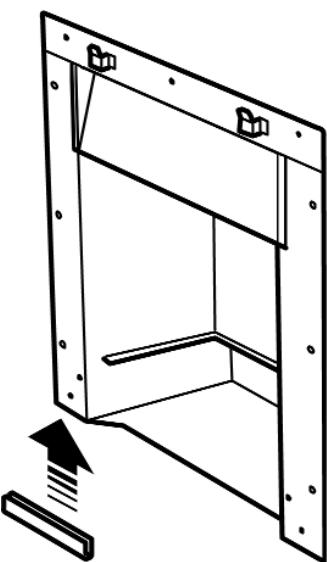

Figure 13. 'U' seals
2. Fit the two "U" section seals to the bottom edges of the hotbox side flanges (See figure 13).